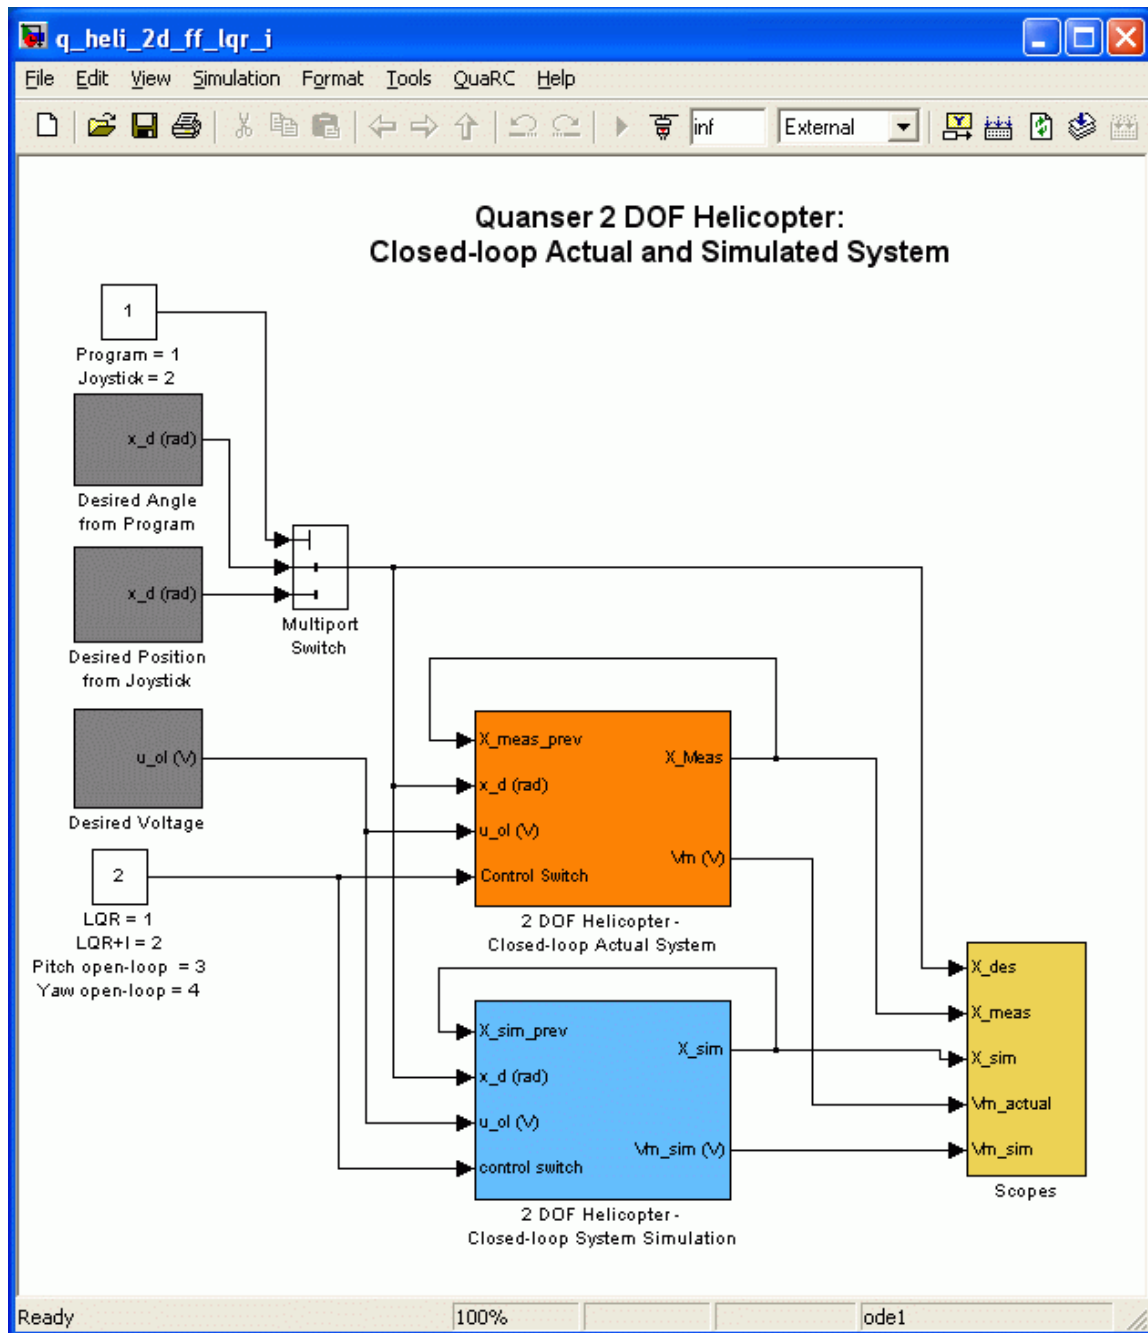

Figure 35: Simulink model used with QuaRC to run the closed-loop controller on the 2-DOF Helicopter.
2. Open Simulink model *q_heli_2d_ff_lqr_i.mdl* shown in Figure 35 that implements the closed-loop LQR and LQR+I position controllers.
9. In the *q_heli_2d_ff_lqr_i* Simulink diagram, make sure the *Program/Joystick* block shown in Figure 35 is set to 1 in order to generate the desired angle from Simulink.
21. Alternatively, the desired angle can be generated using the joystick, as described in Section 5.4. To use the joystick, set the *Program/Joystick* switch shown in Figure 35 to 2. The rate at which the desired angle increases or decreases given a joystick position can be changed using the `K_JOYSTICK_X` and `K_JOYSTICK_Y` variables that are set in the `setup_lab_heli_2d.m` script file and the using the *Rate Command* knob. When starting, set the *Rate Command* knob on the joystick to the midpoint position.